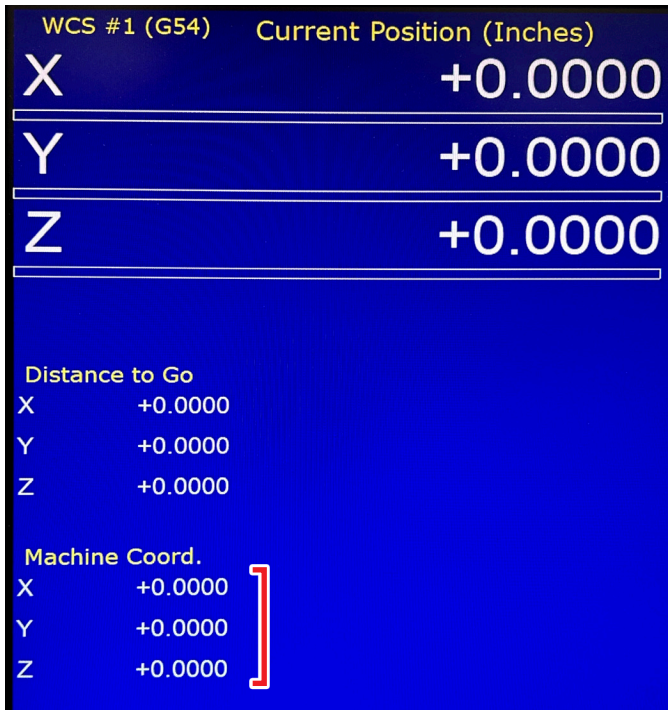

FIGURE 6
2. Home the machine and the “Machine Coordinate” will show Zero values for all axes (see Figure 6).